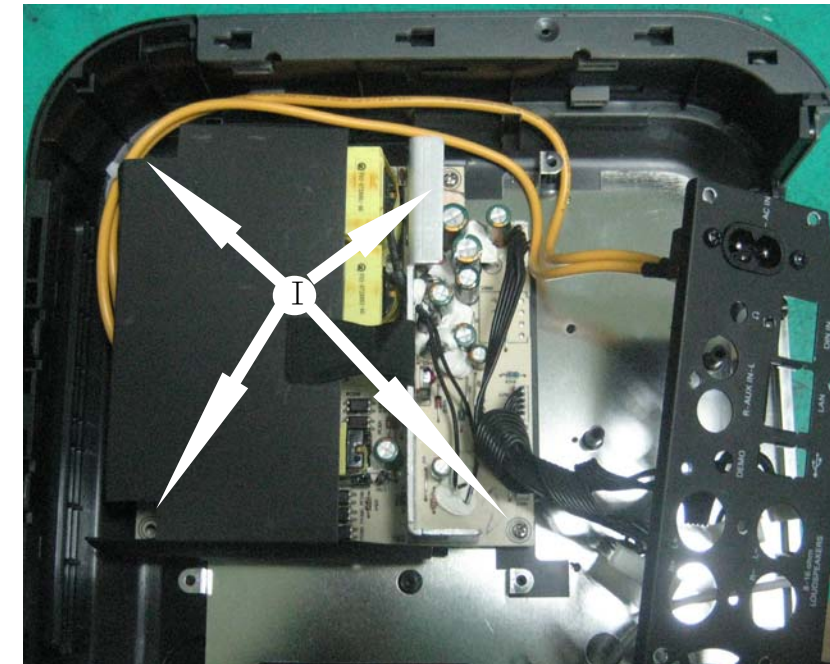

Figure 13
- 1) Loosen 4 screws "I" (S1 x 4) to detach Power Board as shown in figure 13